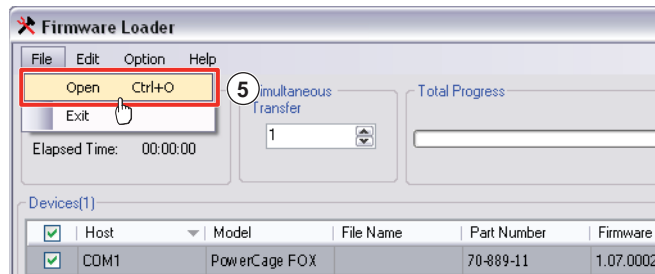

Figure 22. Extron Firmware Loader Window
4. Click **OK**. The Firmware Loader window appears (see figure 22).